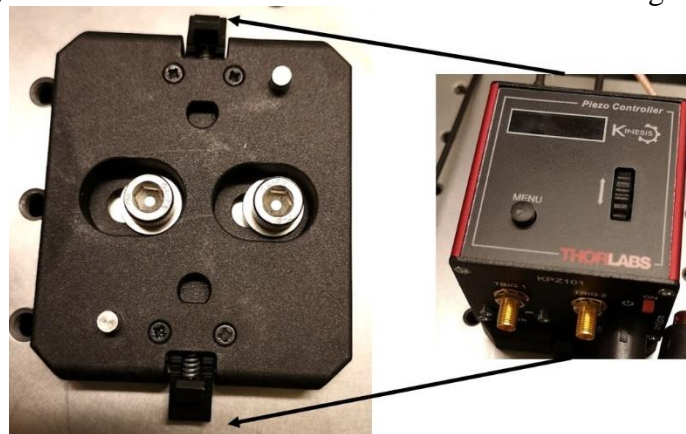

Figure 18: Placement of μ Tlens base on the breadboard and how its Driver is fixated to it.
Step61. Fixate the Table mounting plate of the μ Tlens Driver (item 51) onto the core optics breadboard (item 1), next to the Coupling box (item 21). Fixate it with two M6 cap screws (item 6), each with a washer as shown on the left side of Fig.18.